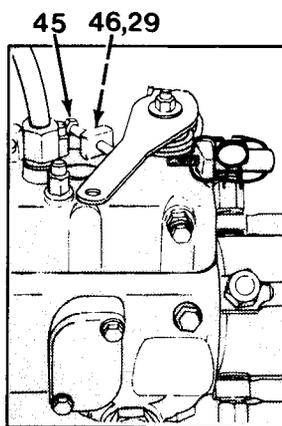

Figure 7-27
17. Remove low idle screw (45), washer (46) and lock nut (29, Figure 7-27).
2. Install lock nut (29), washer (46) and idle screw (45, Figure 7-27). Align matchmarks made during disassembly.